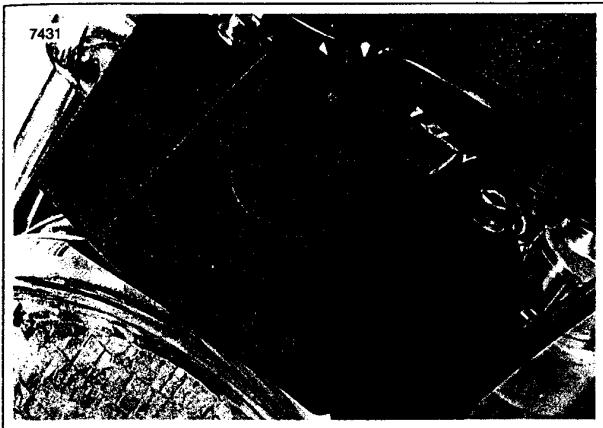

Figure 1-68. Snap Plug (Typical)
1. See Figure 1-68. Remove snap plug on top of headlamp housing.